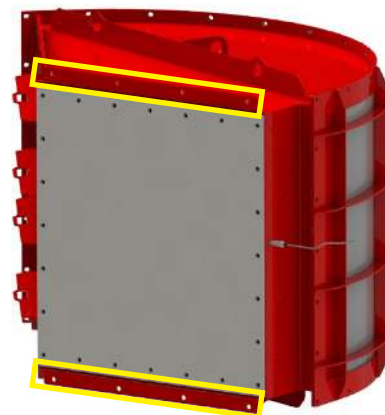

Figure 10 - Outside metal brackets for mounting
**STEP 1:** Mount the Vigiflam to the dust collecting vessel using M10x30 bolts provided with shipment. Ensure to use holes on the outside metal brackets as shown in figure 10.